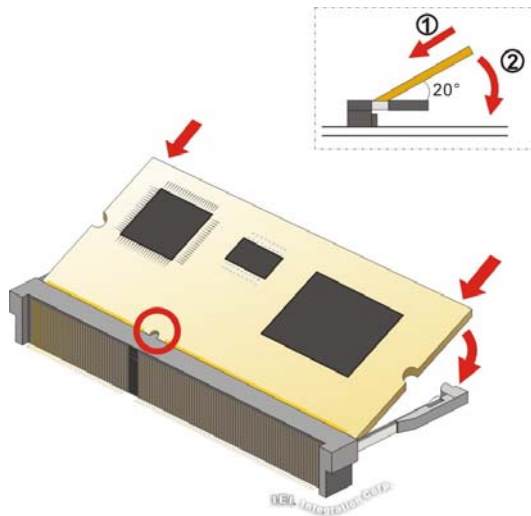

Figure 3-12: IPMI Module Installation
- Step 4:** Insert the iRIS-2400 module. Push the module in at a 20° angle (**Figure 3-12**).
- Step 5:** Seat the iRIS-2400 module. Gently push downwards and the arms clip into place (**Figure 3-12**).